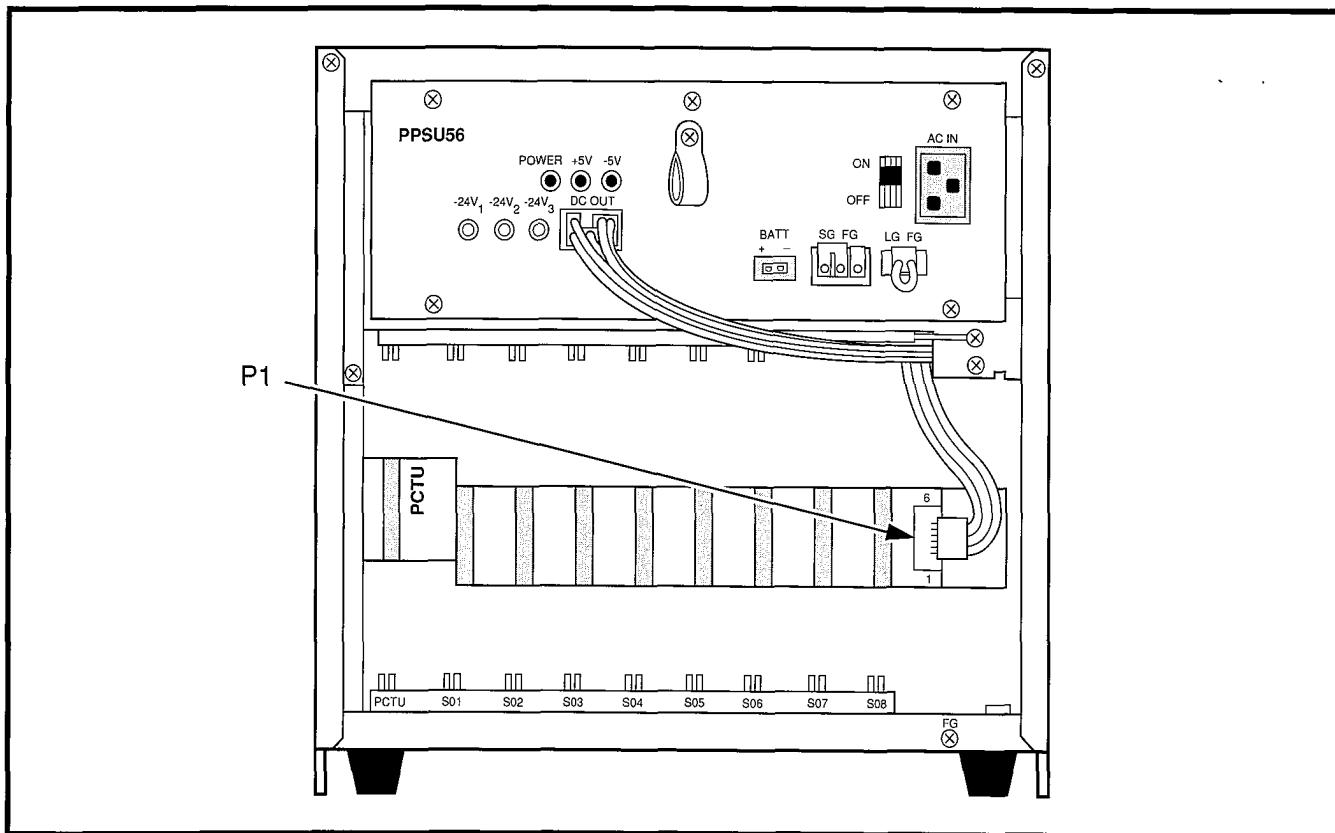

FIGURE 2-3—DK56 KSU INTERIOR
3.21 The DK56 KSU interior also has just one shelf (Figure 2-3), but with nine available PCB